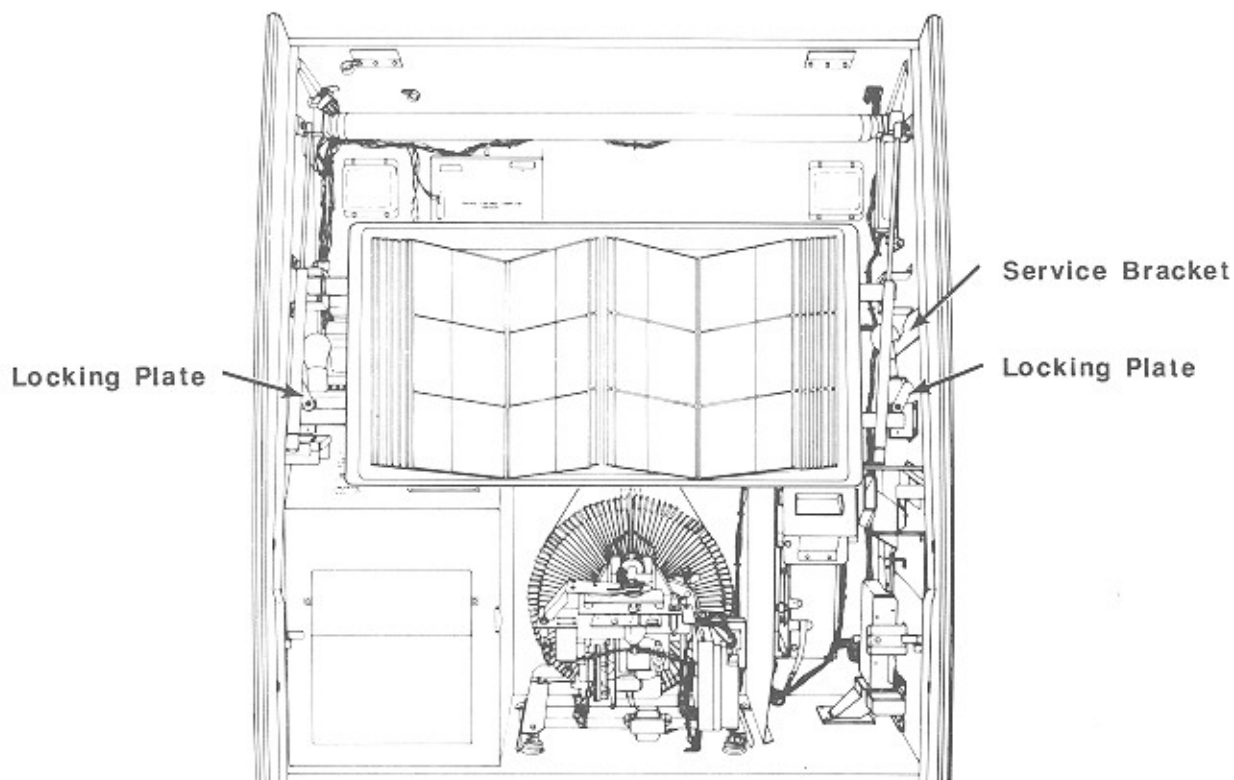

Figure 2-1. Raising The Title Rack
2. Rotate the two retaining latches on the ends of the title rack lower support bar (*see figure 2-1*) away from the support bar and lift the bottom of the title rack up and toward you with your left hand.